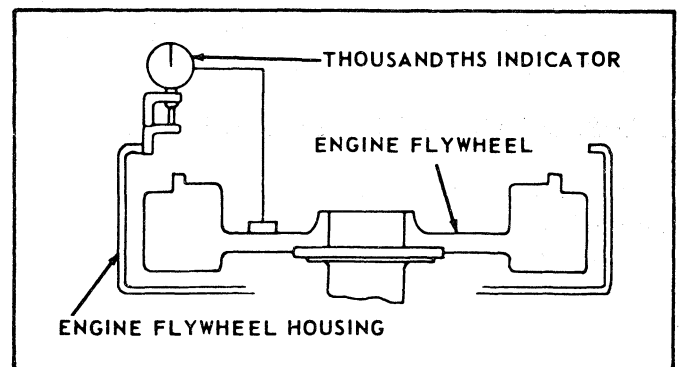

Figure 50. Checking the bore of the engine Flywheel Housing.
E. Checking Bore of Engine Flywheel Housing. With the indicator mounted as in Paragraph D above, adjust the indicator stem so that it will ride on the bore of the engine flywheel housing (fig. 50). Rotate the engine flywheel and note the eccentricity of the engine flywheel housing bore. The bore eccentricity must not exceed 0.008-inch maximum total indicator reading.